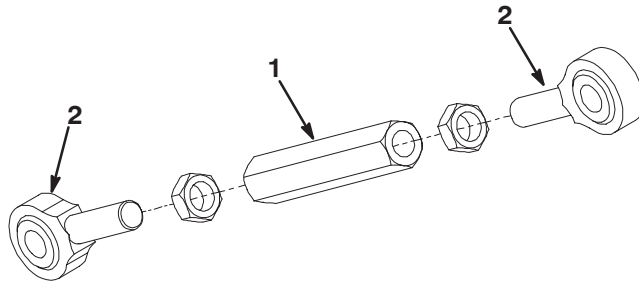

Figure 9
- 11.** Assemble the rod ends and jam nuts to the hex tube to form the threaded link (Fig. 9). The nuts and the rod ends have right and left hand threads.